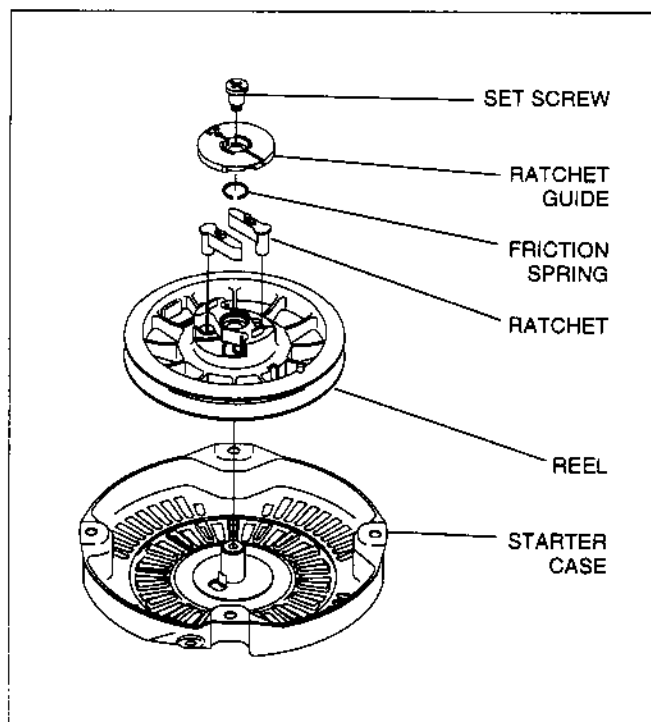

Fig. 9-2
##### (2) Setting the attachments off (Fig. 9-2)
##### (3) Setting the reel off (Fig. 9-2)
- 3: In case the spring in the reel is close to pop up, redo the steps of (3)-1 and (3)-2 again.